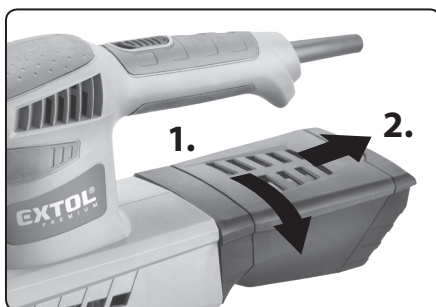
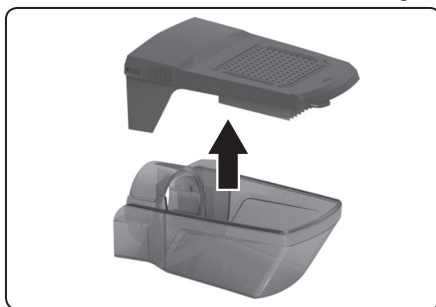

Fig. 5a
Fig. 5b
- The sander can be used either with the dust collection box installed or it is possible to remove the dust collection box as shown in fig. 5a and, using an appropriate hose adapter, connect the hose of an industrial vacuum cleaner with a sufficient filtration efficiency. In the event that external dust extraction is used, do not use a vacuum cleaner intended for household use. To empty out the dust collection box, remove the top cover as shown in fig. 5b.